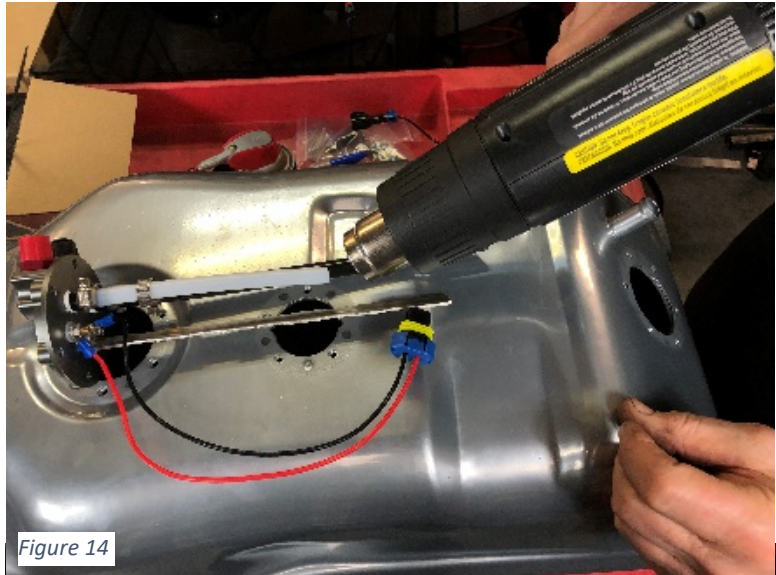
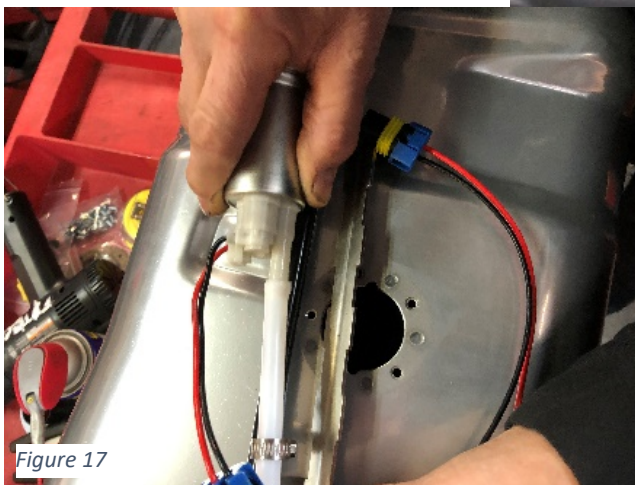

Figure 14
Figure 17
6. Measure depth of tank and determine where pump needs to be positioned vertically (Figure 7.) Once you have determined proper pump location so that filter sock will be within an 1/8" of the bottom of the tank when installed, cut the opaque hose and metal support rod to the desired length (Figure 8 & 9.) Using a heat gun, heat the end of the hose that will go onto the fuel pump (Figure 14). Push the heated hose onto the outlet nipple of the pump. **Note: Be sure to push straight and evenly. Do not force as pump nipple can break. If hose is not fully on pump nipple, reheat hose prior to pushing further.** (Figure 17) Secure with a hose clamp. (Item 10)
2. Measure depth of tank and determine where pump needs to be positioned vertically. Once you have determined proper pump location so that filter sock will be within an 1/8" of the bottom of the tank when installed, cut the black hose and metal support rod to the desired length. Using a heat gun, heat the end of the hose that will go onto the fuel pump. (Figure 14.) Push the heated hose onto the outlet nipple of the pump. (Figure 17) Secure with a hose clamp.